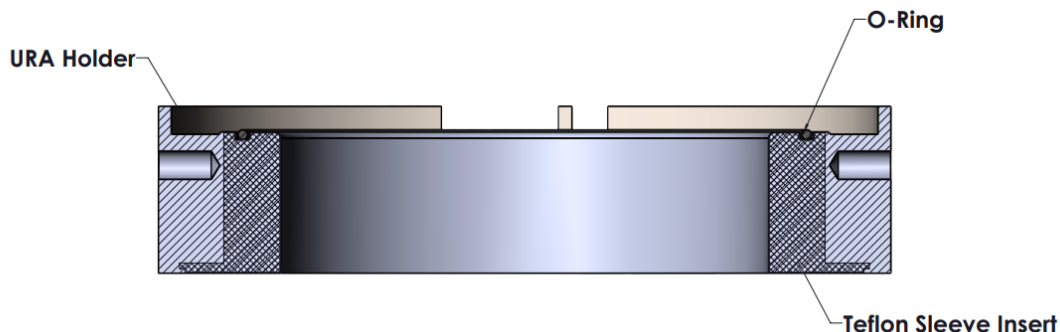

Figure 2. URA Holder with Teflon Sleeve Insert Cross Section
- j) For "pre-torque" type URAP holders, fasten the assembly together by reinstalling the pre-assembly capscrews as shown in figure 2 finger tight before torquing. 12 point high strength capscrews are supplied with the assembly, DO NOT SUBSTITUTE. A 12 point, deep length, thin wall socket is required for correct torquing.
- k) Using a torque wrench, develop the required torque incrementally in a minimum of four (4) steps in a crisscross pattern. The initial torque should be no more than 30% of the final required torque listed in table #1. After following this sequence, a final tightening should be performed capscREW-to-capscrew to ensure that all bolts have been evenly torqued
(1) New Installation